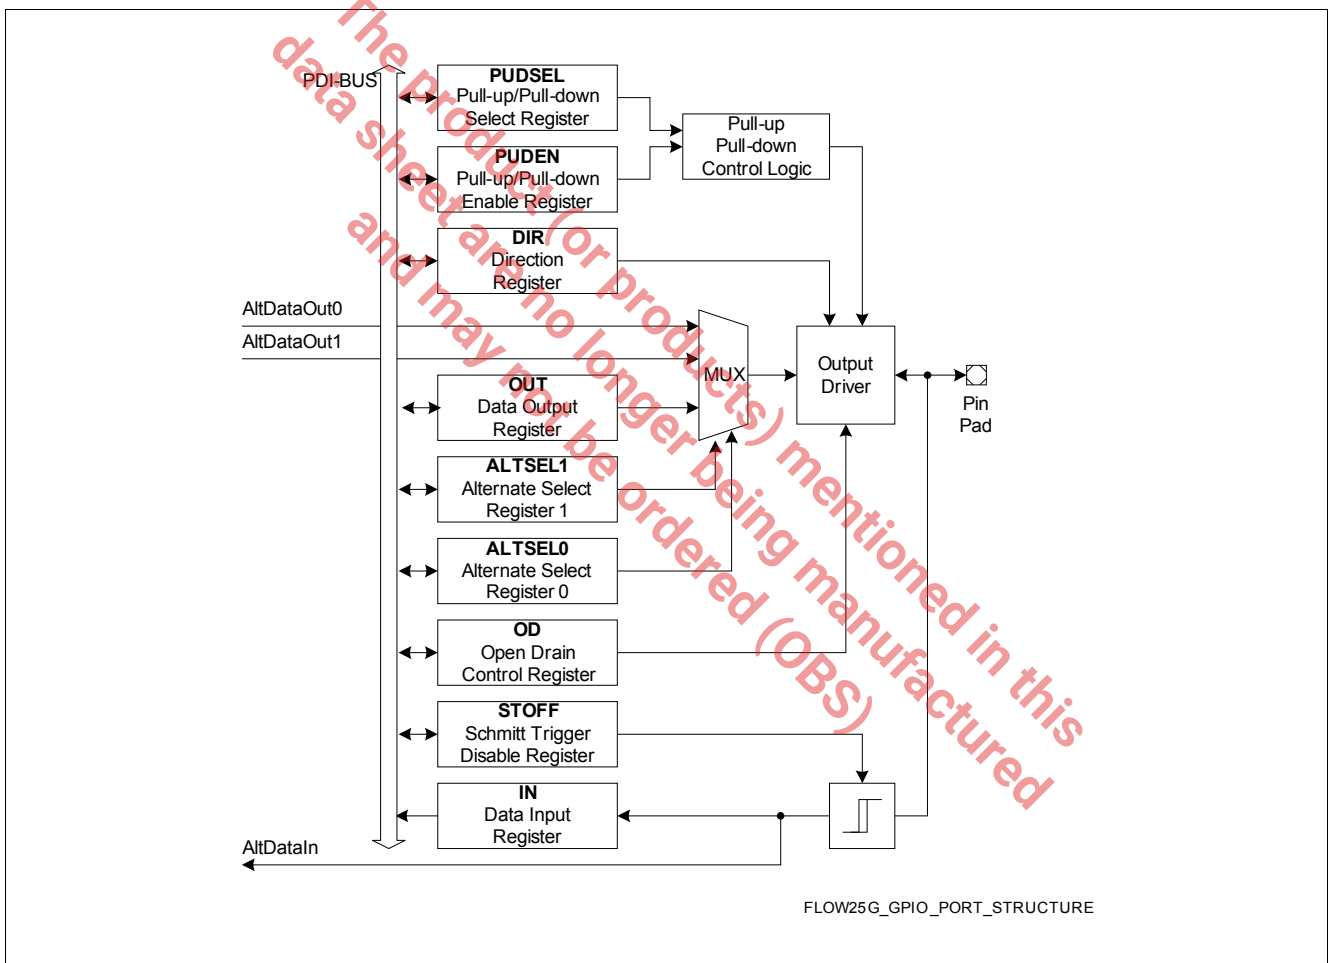

Figure 17 General Port Structure
Figure 17 shows a general block diagram of a GPIO pin. Each GPIO pin is equipped with a number of control and data bits, enabling very flexible usage of the line.
Figure 17 shows a general block interrupt controller diagram. An interrupt module (IM) provides connectivity for multiple interrupt request lines, condensed to two interrupt request lines to external pins.